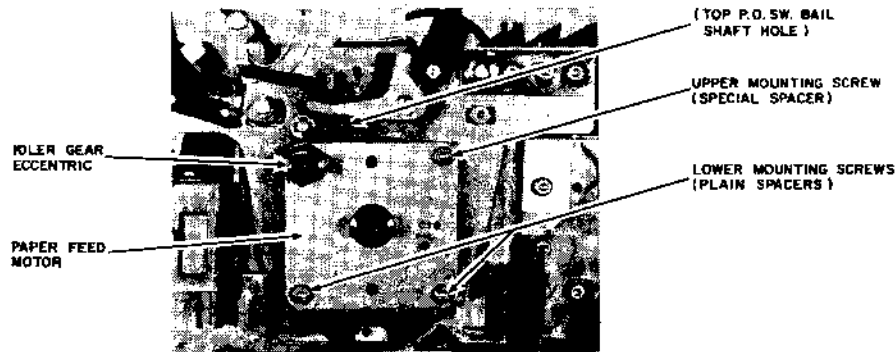

Figure 5-9 PAPER FEED MOTOR REMOVAL
2. Using a TORX T15 screwdriver, remove the three 8-32 x 3/4" screws holding the paper feed motor to the right-hand Carrier side frame as follows. Remove the two bottom screws first, and retrieve their spacers from between the motor flange and carrier frame. Remove the upper right-hand (as you view it) screw last, and retrieve its shoulder spacer from behind the motor flange. This shoulder spacer prevents motor side movement. Refer to Figure 5-9.
4. Using an 11/32" open end wrench and a blade screwdriver, remove the paper feed idler gear mounting stud eccentric, nut and two washers from the paper feed motor's upper left-hand flange hole. Refer to Figure 5-9.
7. Orient the paper feed motor with the idler gear eccentric stud upper left as shown in Figure 5-9. Insert the special shoulder spacer (removed last in Step 2) behind the motor's upper right flange, with its shoulder extending into the hole in the flange. Loosely thread one of the 8-32 x 3/4" screws into the Carrier side frame through the motor flange and spacer.